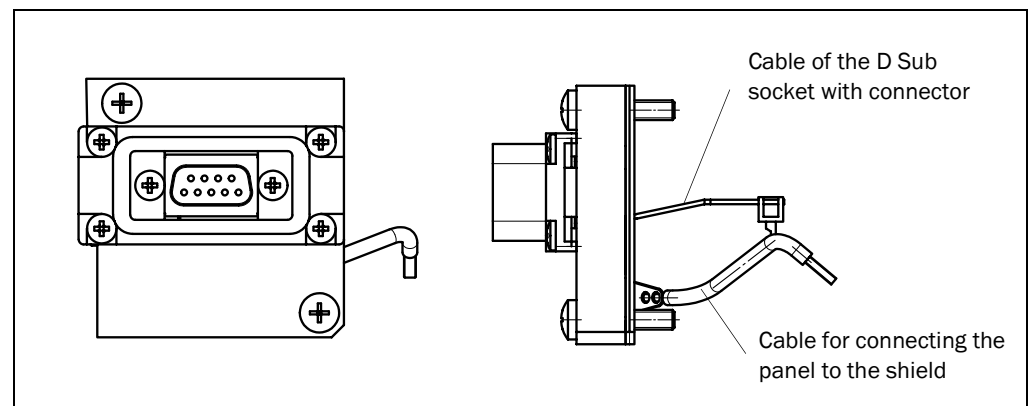

Fig. 2-3: Front panel of the CMF 400-1101: 9-pin D Sub socket (IP 65) for Profibus DP
1. Screw the new front panel (*Fig. 2-3*) into place. The shield must be located at the bottom of the connection module.